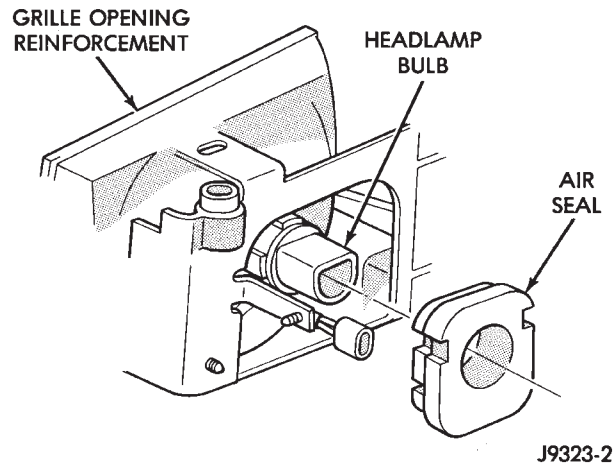

Fig. 9 GOR Air Seals
- (21) Remove grille opening reinforcement.
- (22) If necessary, remove air seals located at headlamp wiring inlets (Fig. 9).